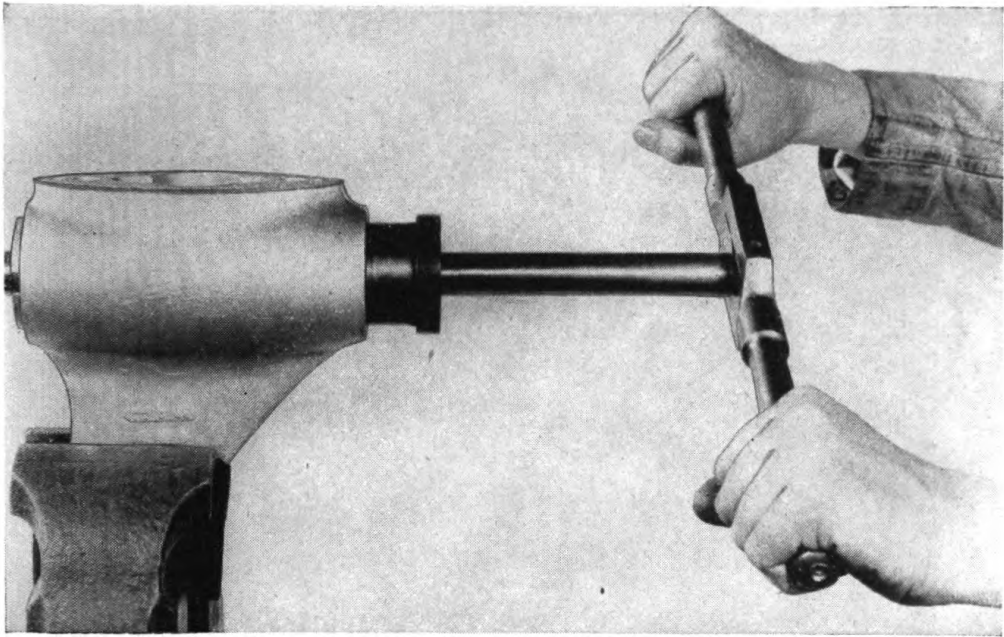

Figure 123. Reaming gearcase bearing.
(3) Ream bearing to size .875 inch as shown in figure 123. Use reamer No. S-94. Place gear case in vice. Note large pilot on right side of gear case. Insert reamer, pilot on reamer in propeller-shaft bearing, and large pilot fitting over reamer shaft into the gear case to obtain correct alignment when reaming. Turn reamer in clockwise direction, facing back of gear case, at same time forcing gently forward until cutter passes through bearing. Withdraw reamer slowly with same turning motion.